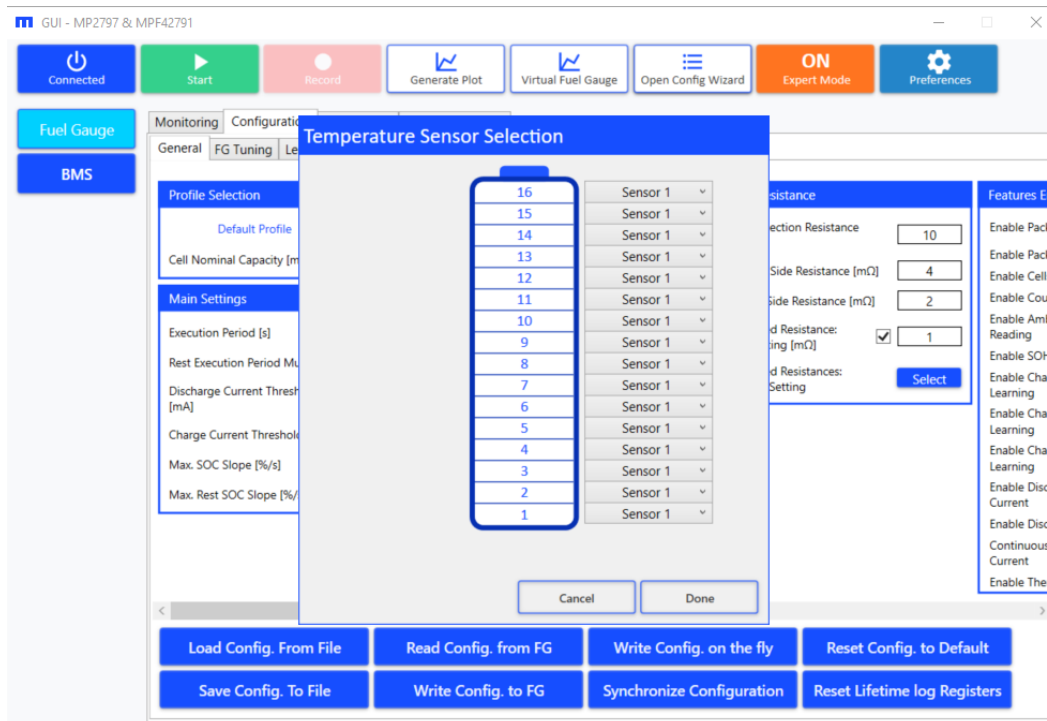

Figure 40: Temperature Sensor Selection Window
- b. The second “Select” button opens the wizard to assign a temperature sensor to each cell (see Figure 40). Note that the number of temperature sensors should be set first.